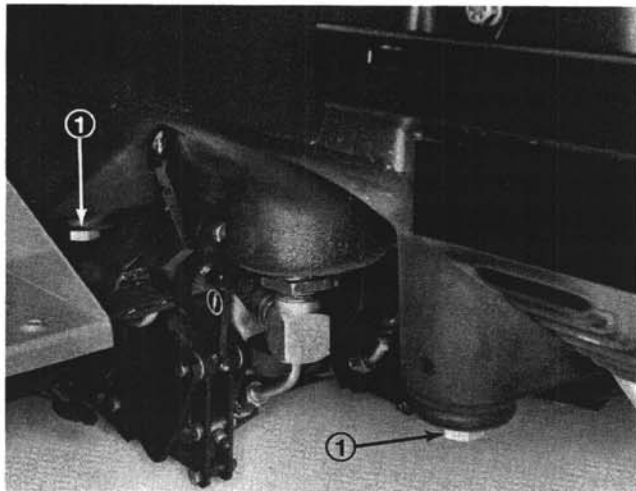

Figure 46
CHANGING HYDRAULIC OIL (Fig. 46 & 47)
2. Remove drain plugs (Fig. 46) from both ends of reservoir and let hydraulic oil flow into drain pan. Reinstall and tighten plugs when hydraulic oil stops draining.